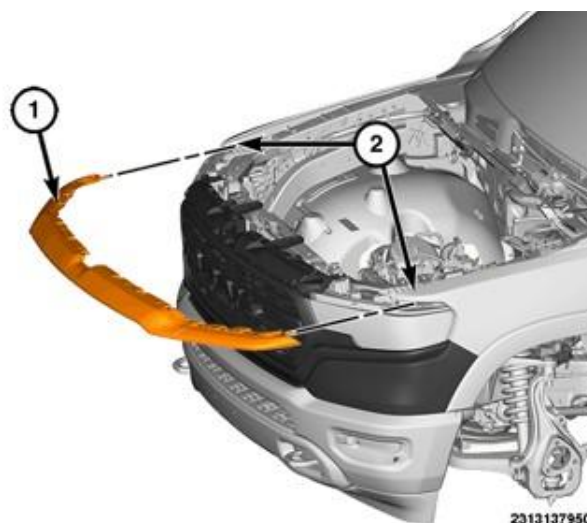

Figure C4 – Grille Upper Trim
7. Disengage the grille upper trim and slide it forward to remove it from the vehicle (Figure C4).
33. Align and engage the grille upper trim to the vehicle (Figure C4).